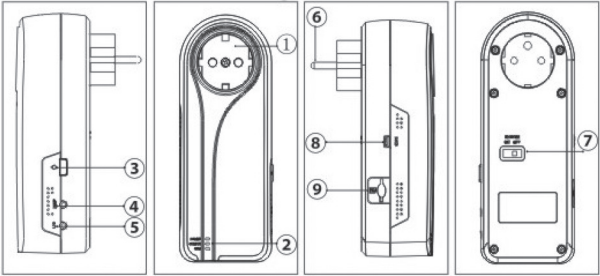

Figure 1
1. Turn the power switch to “On” position (see 7 on Figure 1)
3. Insert your electronic appliance into the **GSM158** electrical outlet (see 4 on figure 1).
4. “Ⓞ” button (see 4 on figure 1) can be pressed for about 1 second to manually switch **ON** or **OFF** the socket power output. The socket is now ready to be programmed for remote use.
Note: *The unit can be turned off by the switch (See 7 Figure 1) when not required for a period of time or by pressing the “Ⓞ” button for 1 second (See 3 Figure 1). The GSM network signal in the socket location can affect the unit’s functionality and therefore we recommend that the signal strength is tested before lugging external devices into the socket to be controlled. This can easily be done by sending an SMS to the socket first time to see the response time which will indicate signal strength in addition to a continuous blue light.*
Method 1: To press “Ⓞ” button for 1 second (See 3 Figure 1)